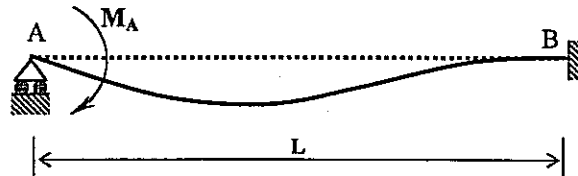

Fig. 3(a)
- a.) Beam AB in the Fig. 3(a) is fully fixed at B and freely supported at A. When a moment  $M_A$  is applied at A, calculate the magnitude of the moment induced at B ( $M_B$ ), ( $EI = \text{constant}$ ).